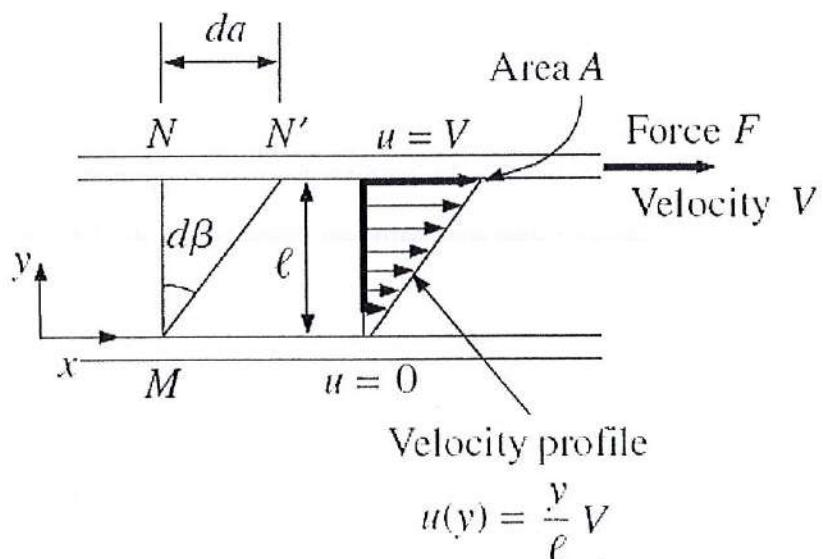

Figure 1/ Rajah 1
- b. In **figure 1** below, the moving plate is 0.7 m on a side (in contact with the oil) and the oil film is 4 mm thick. A 6 N force is required to move the plate at a velocity of 1 m/s. If the oil has specific gravity of 0.9, find the kinematic viscosity.